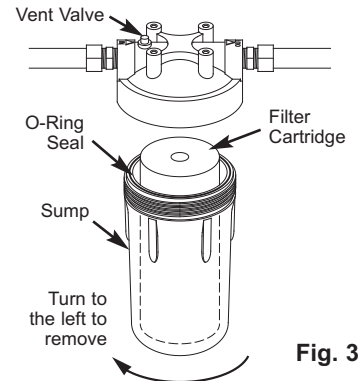

Fig. 3
1. Close the water supply shutoff valve to the filtration system (See Figure 1). To relieve pressure in the filtration system, press the vent valve on top of the filter head (See Figure 3) or open a cold water house faucet downstream of the filtration system.
2. Turn the sump to the left to remove from the head (See Figure 3). Be careful, as the sump is full of water. Do not lose the large o-ring seal.